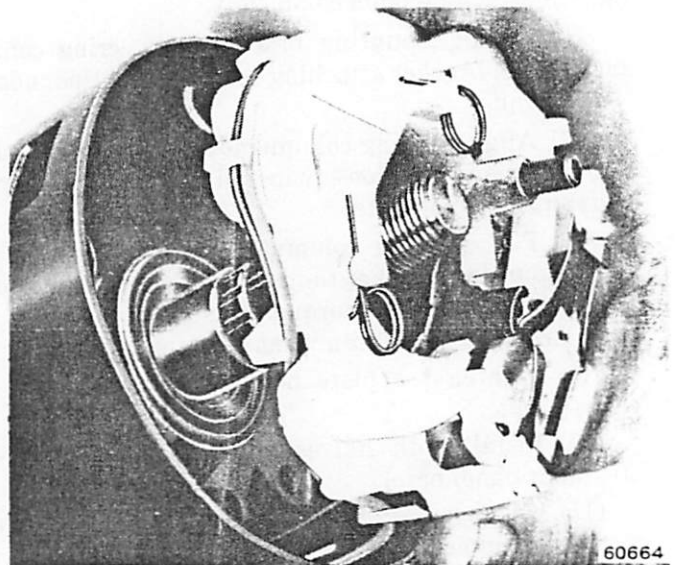

Fig. 2J-8 Disconnecting Turn Signal Switch Harness
**NOTE:** The lock cylinder retaining tab is accessible through the slot adjacent to the turn signal switch mounting boss (fig. 2J-9). If the retaining tab is not visible through the slot, scrape or knock any casting flash out of the slot to provide access.